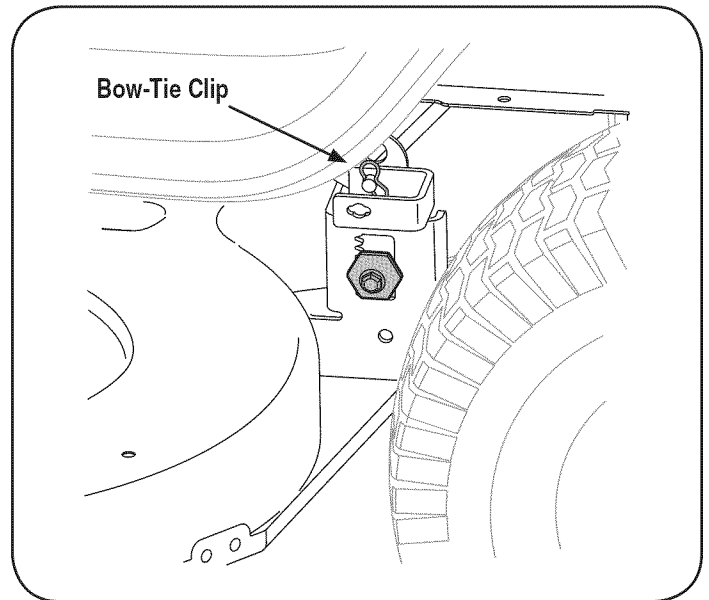

Figure 17
5. Looking at the cutting deck from the left side of the tractor, locate the bow-tie pin that secures the deck support rod on the rear left side of the deck. See Fig. 17. Remove the bow-tie pin that secures the deck support rod, and carefully remove the deck support from the deck lift arm.